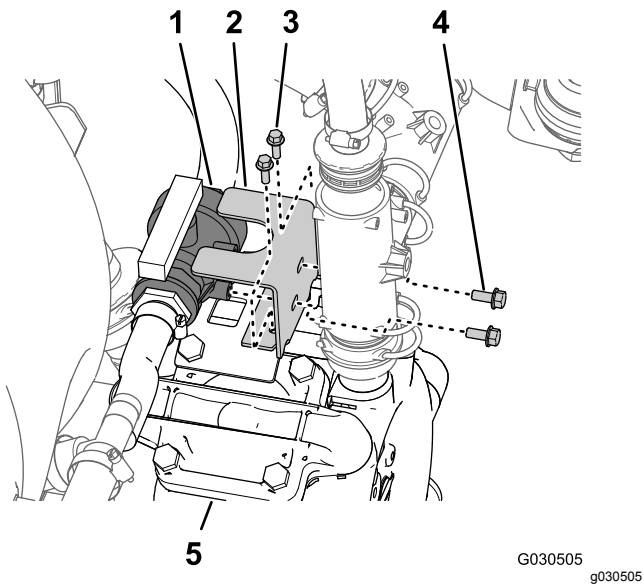

Figure 67
5. At the top of the sprayer pump, remove the 2 flange-head bolt (5/16 x 3/4 inch) that secure the ball valve to the valve bracket (Figure 67).
- Remove the 2 flange-head bolt (1/4 x 3/4 inch) that secure the valve bracket to the mounting bracket on top of the pump (Figure 67).